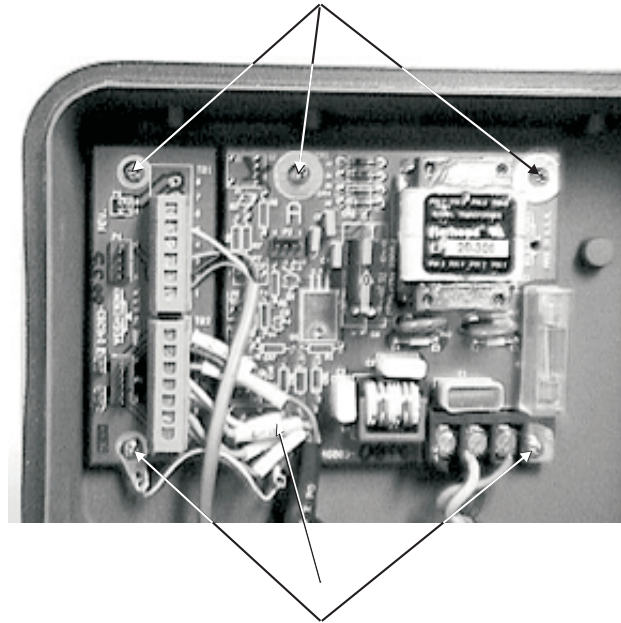

Figure 10
3. To remove the board from the rear half of the enclosure, remove the cable connections, then remove the screws pointed out by the arrows in Figure 10.